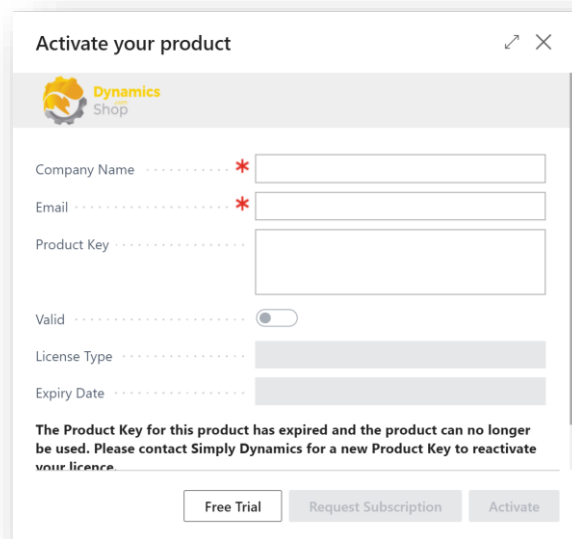

Figure 4-10
2. Choose **Free Trial** (Figure 4-10).